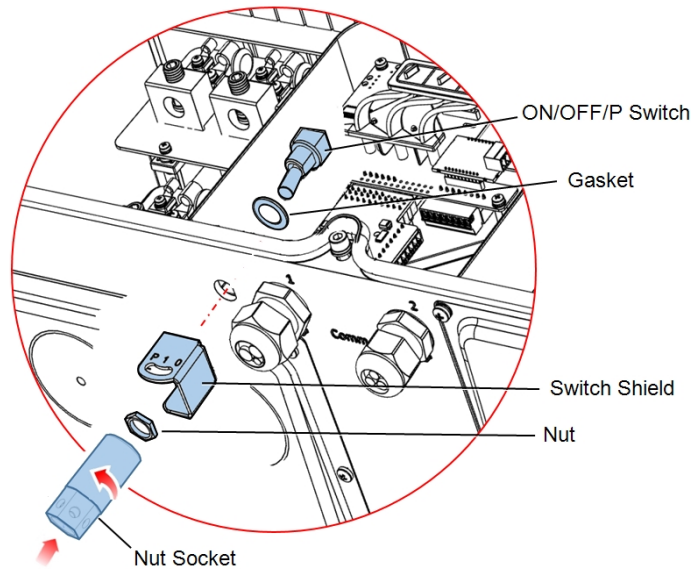

Figure 5: Removing the ON/OFF/P switch
1. Assemble the replacement switch, gasket, switch shield and fasten the nut with a torque of 1.2 N*m (0.88 lb*ft) (see Figure 5).